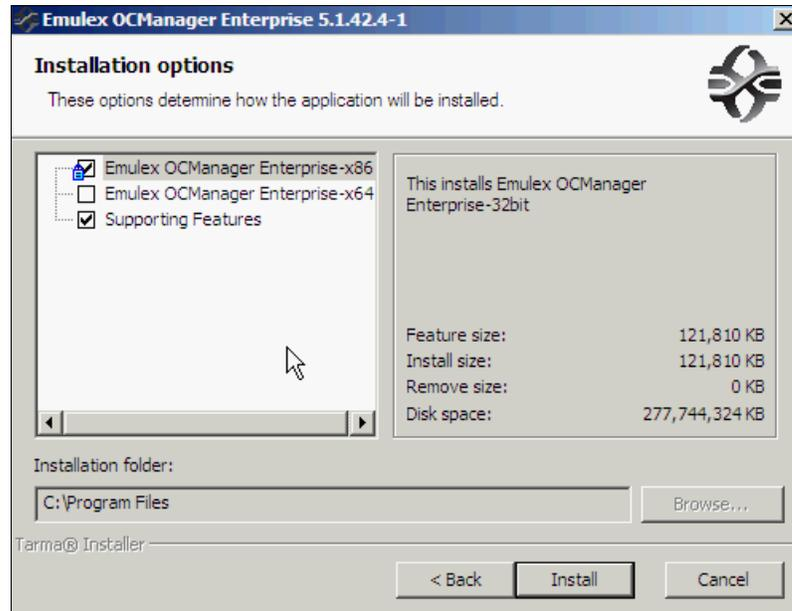

Figure 10-67 Installation options window
3. In the Installation options display (Figure 10-67), accept the default options by leaving them selected and clicking **Install**.